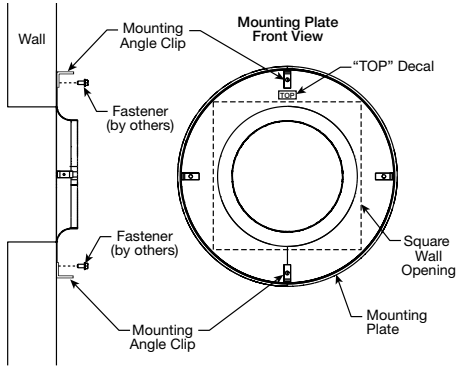

Figure 6
5. The top of the mounting plate is labeled, attach to the wall structure using appropriate fasteners (by others). The fasteners must pass through the holes provided in the mounting angle clips on the mounting plate. For uneven surfaces, shims may be required. See Figure 6.